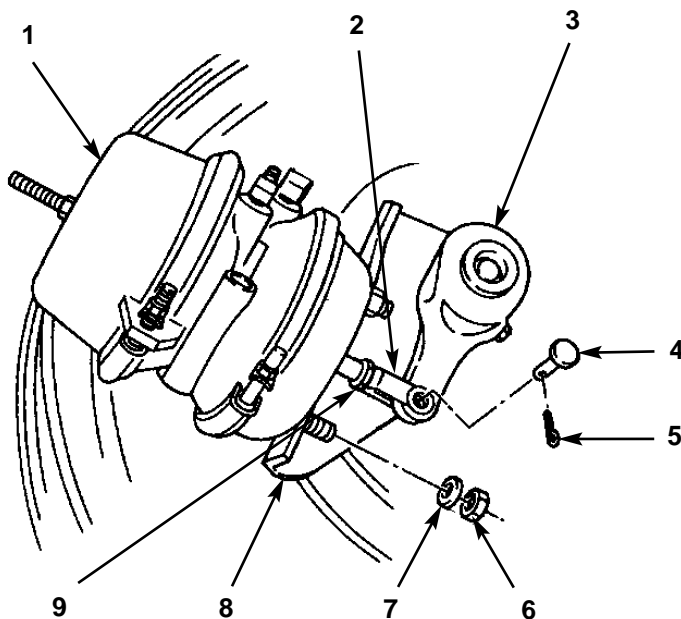

Figure 7. Installing Spring Brake Chamber.
3. Install spring brake chamber (figure 7, item 1) on camshaft bracket (figure 7, item 8) with two washers (figure 7, item 7) and new locknuts (figure 7, item 6).
4. Connect clevis (figure 7, item 2) to slack adjuster (figure 7, item 3) with pin (figure 7, item 4) and new cotter pin (figure 7, item 5). Tighten jamnut (figure 7, item 9).
5. Un-cage spring brake chamber (figure 7, item 1). Refer to TM 9-2320-283-10.